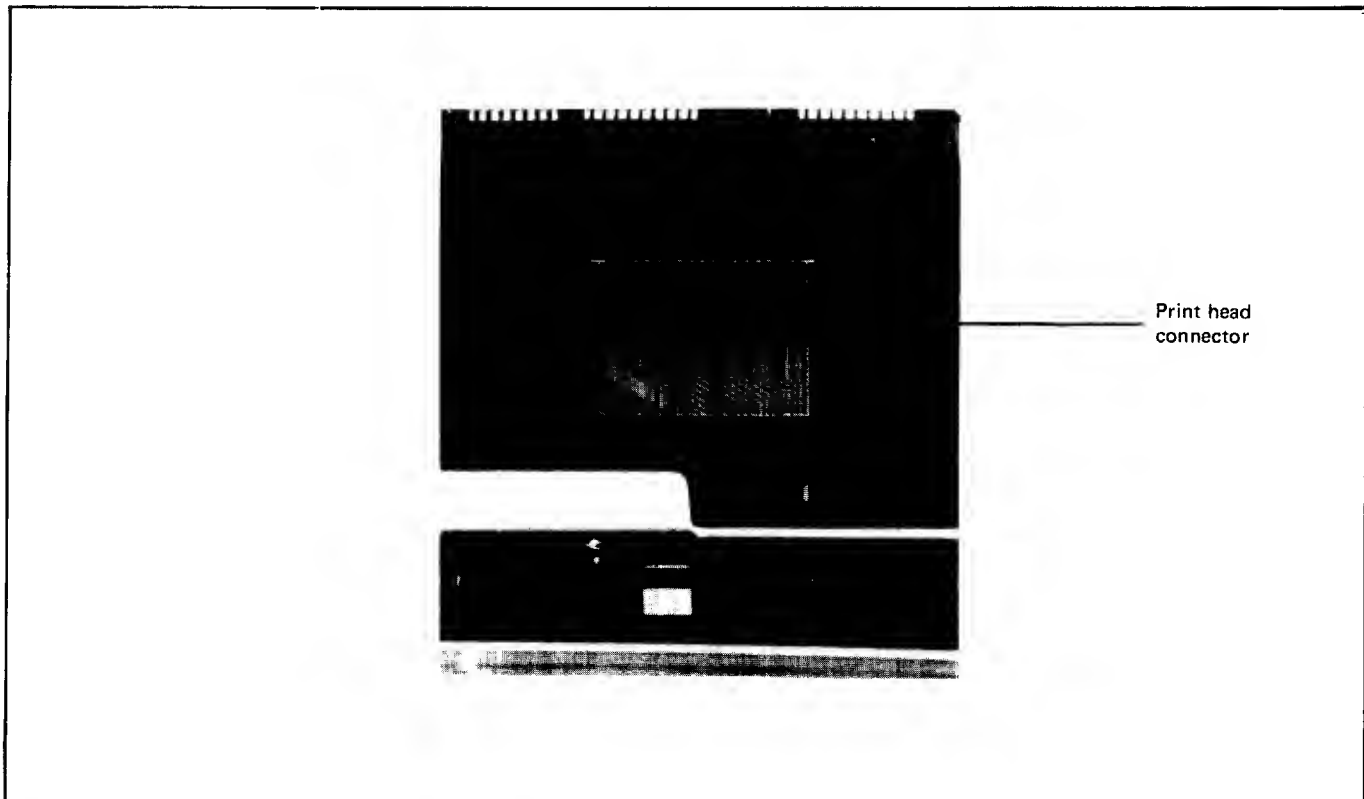

Figure 7-14 Print Head Assembly Connector
9. With the insulated side up, install the flex cable into the TPM PCA connector (slot in TPM mainframe). Ensure that the flex cable is seated fully into TPM PCA connector and that the contacts of the print head cable assembly are aligned with the contacts on the TPM PCA. To be sure of perfect alignment, turn the TPM upside down to view the connection pin assignment (see figure 7-14).